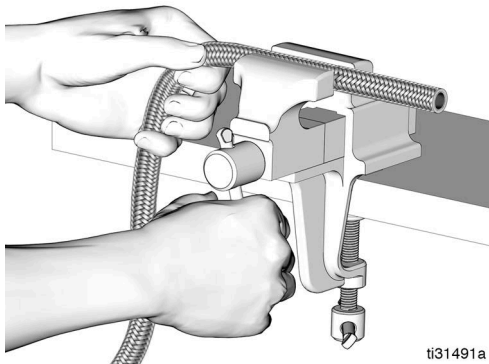

FIG. 57
1. Secure end of hose in a vise (FIG. 57).